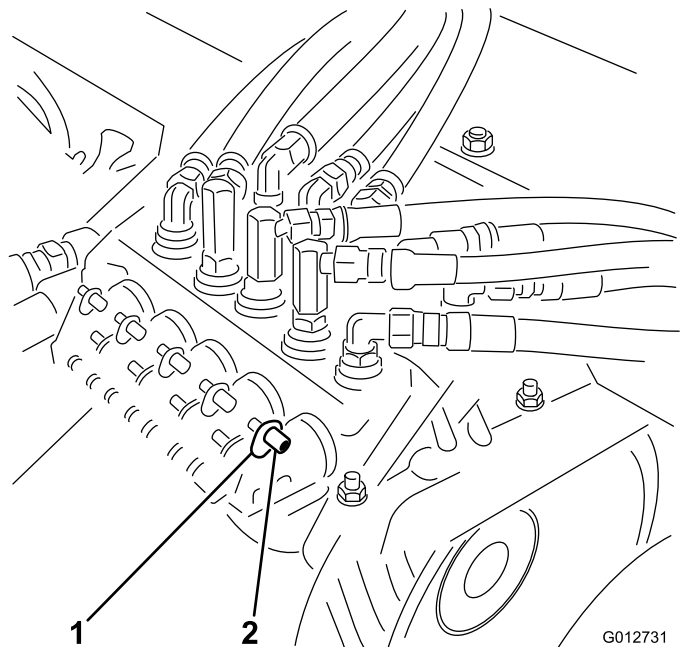
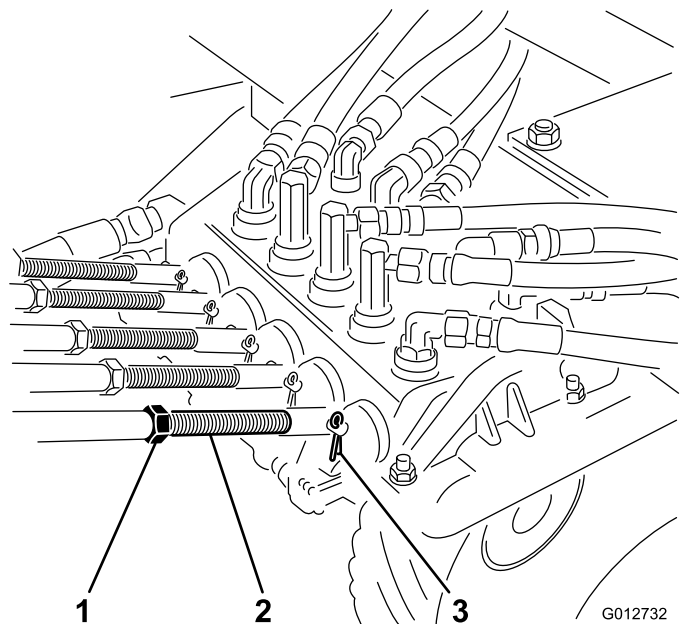
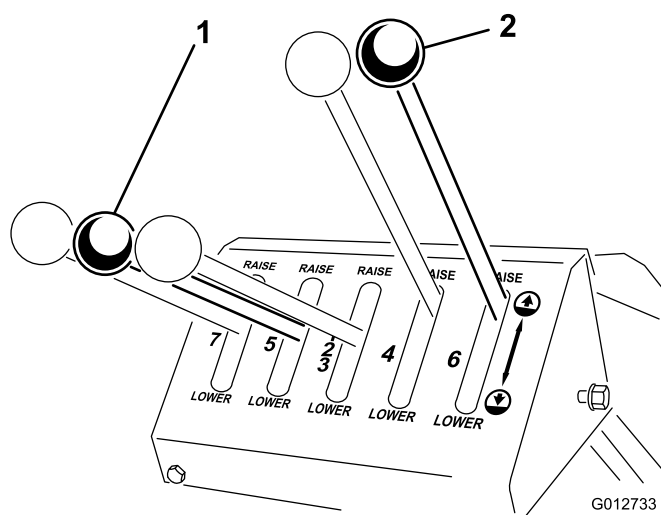

Figure 17
Figure 18
Figure 19
9. Check to make sure the valve spool levers (Figure 17) are in neutral (middle position) by pivoting the levers in toward the valve, or pulling them out to find the mid position.
10. Thread 7/16 inch hex nuts onto the lower control rods. Partially thread the lower control rods into the upper control tubes (Figure 18). Coat the threads with #2 gun grease.
11. Align the hole on the end of the lower control rod Figure 18 with the mounting pin in the control valve lever (Figure 17). The lever on the control tower should be in the center of the slot (neutral position) if adjusted correctly (Figure 19). Thread the lower rod into or out of the upper control tube to adjust. After each lever is adjusted, check to make sure all levers are aligned with each other. Readjust if necessary.
12. Secure control rods to control valve levers with cotter pins (Figure 18).
14. When adjusted correctly, tighten the jam nuts on the lower control rods (Figure 18).